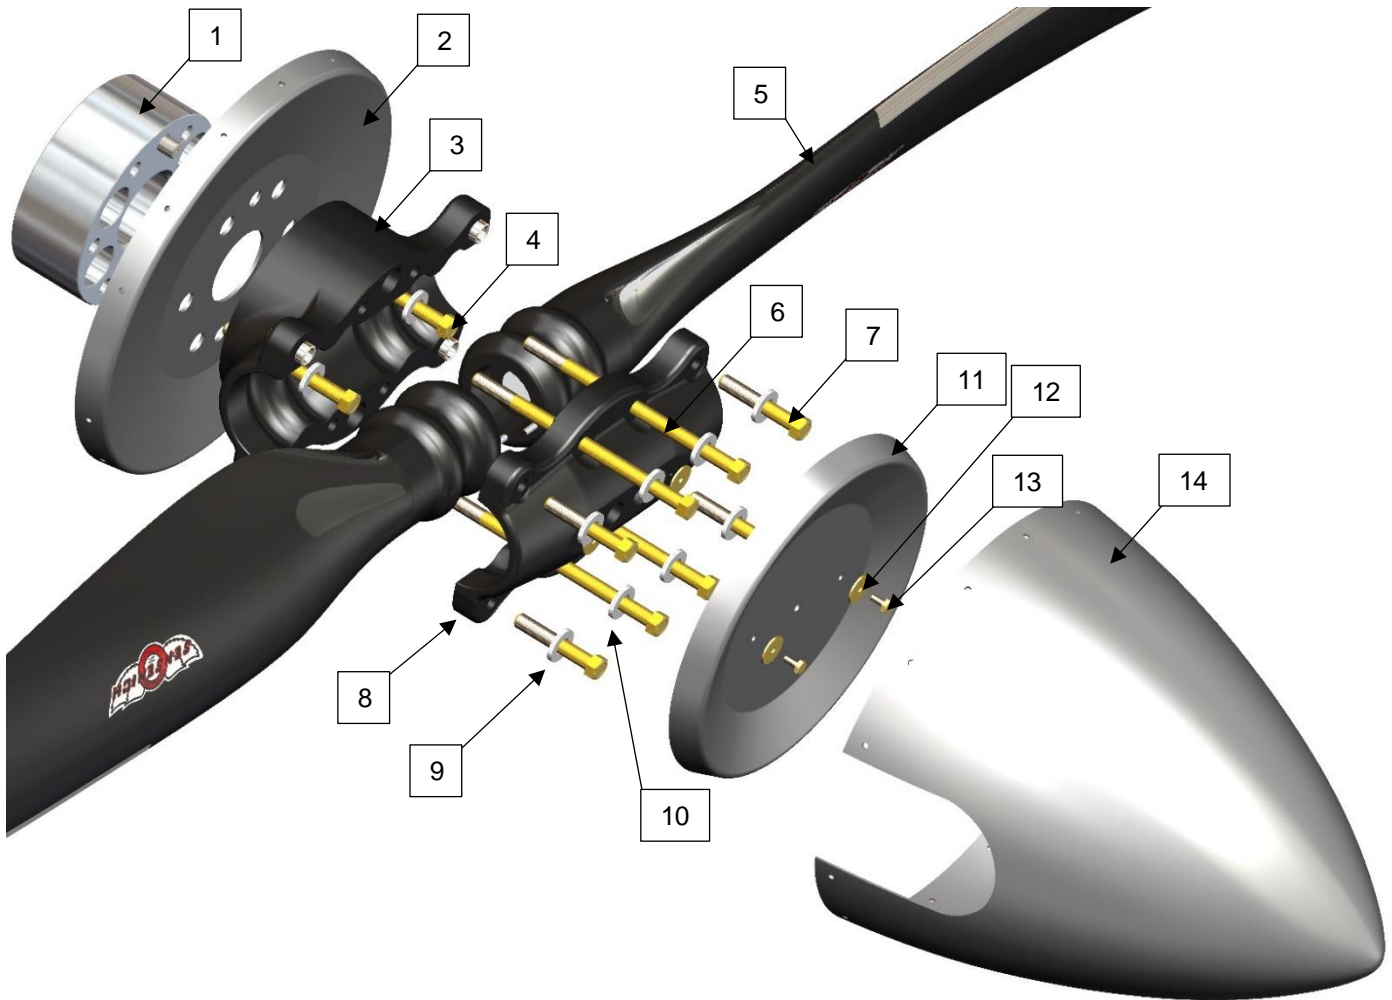

FIGURE 1. PROPELLER ASSEMBLY
1. Ensure the aircraft magneto switch is in the "OFF" position and that both magnetos are grounded any time the propeller is handled. Chock the aircraft wheels to prevent movement. Clean dirt and oil residue from the engine flange. Refer to **Figure 1** for views of the two-piece hub, blade, and pitch setting gauge.
2. Place spacer (if required), rear spinner bulkhead (if used) and the hub mount, as shown in **Figure 1**, on the propeller mounting flange. The hub must sit flush on the mounting flange.
3. Refer to **Figure 1** for views of the two-piece hub, blade, and pitch setting gauge. Using the two Nord-Lock washers and two short mount bolts, secure the hub mount, rear spinner bulkhead (if used), and the spacer (if required) to the engine flange. Using a calibrated torque wrench, torque the 2 mounting bolts evenly using an alternating pattern. Tighten the bolts in several increments up to full torque, such as 50%, 75%, and full torque. See **Table 1**.